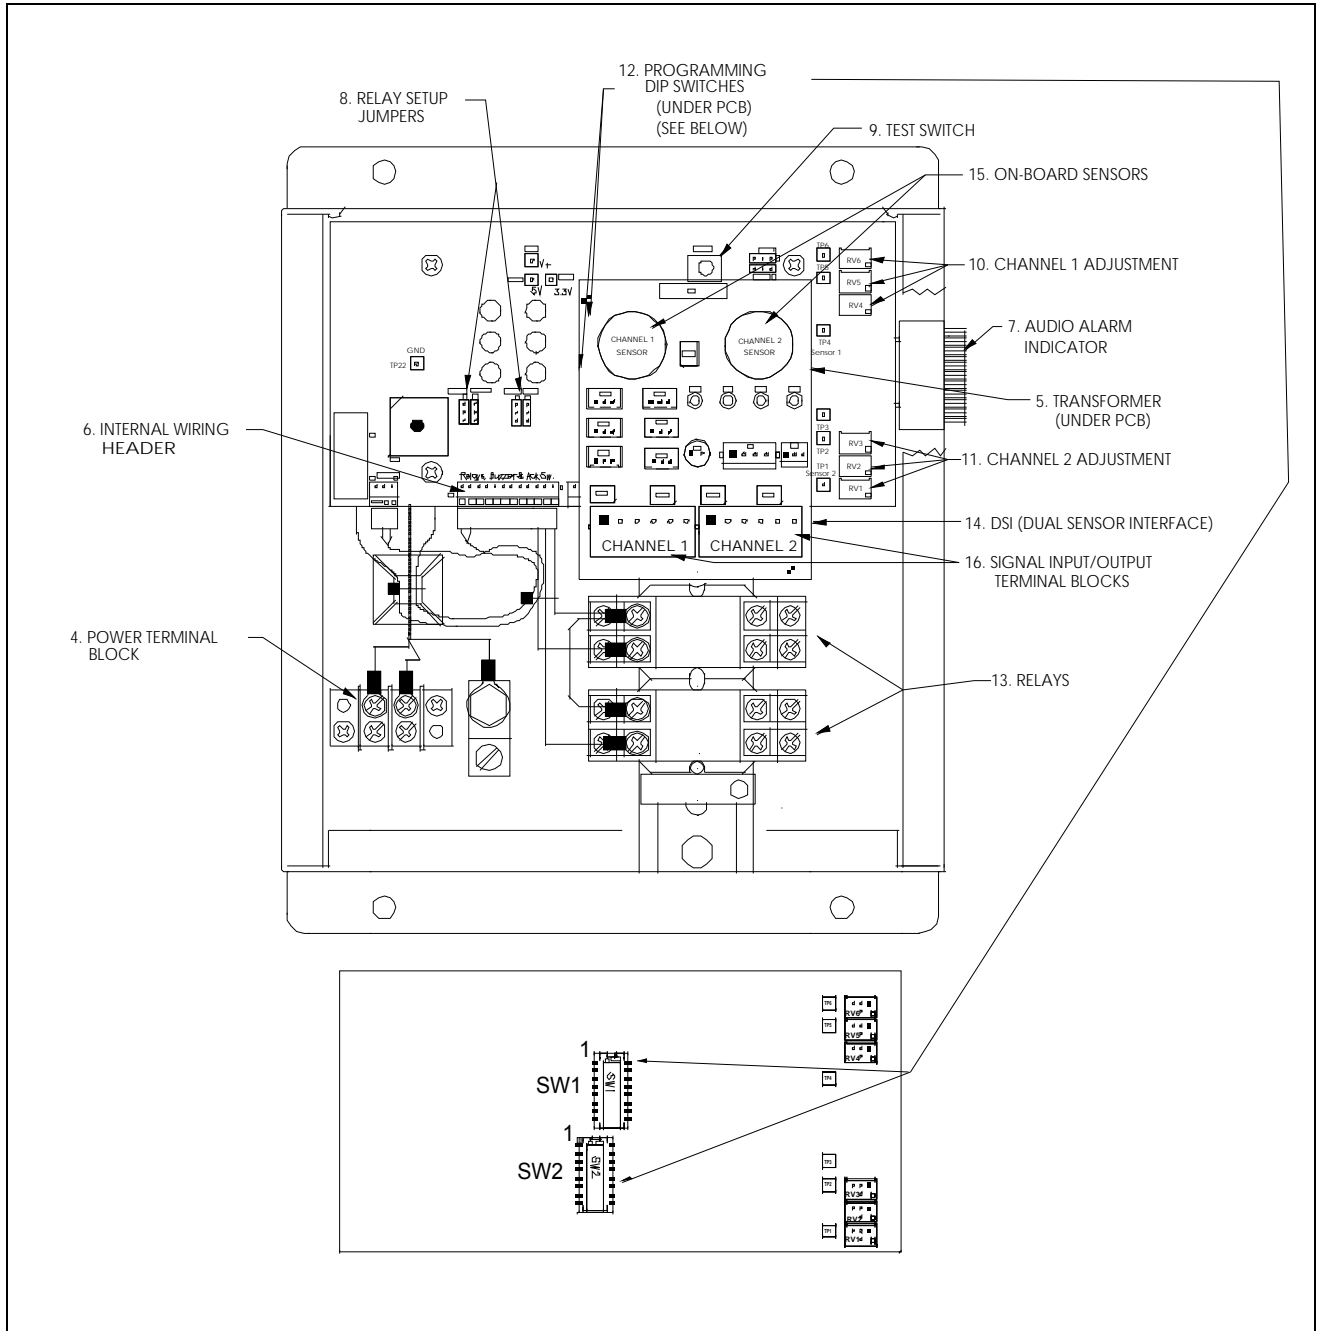

Figure 3-2: Internal Features of the Gas Monitor 1A2 with DSI
On the DSI board, the signal input/output terminal block (see Figure 3-2, item 16) allows, up to, two channels for wiring. Figure 4-7 shows a detailed depiction of a signal input/output terminal block. A 4-20mA signal output is always present with either on-board sensor(s) or remote transmitter(s). If an on-board sensor is not employed, each channel can handle the input for a remote transmitter, typically a 4-20mA current signal. Refer to the DSI layout in Figure 5-2 for channel orientation. Table 5-7 defines the current output the DSI will supply on the 4-20mA signal when connected to a sensor module which utilizes a voltage signal out (AMC Multidrop Sensor Module). The following subsections detail transmitter, building automation, and VFD wiring.